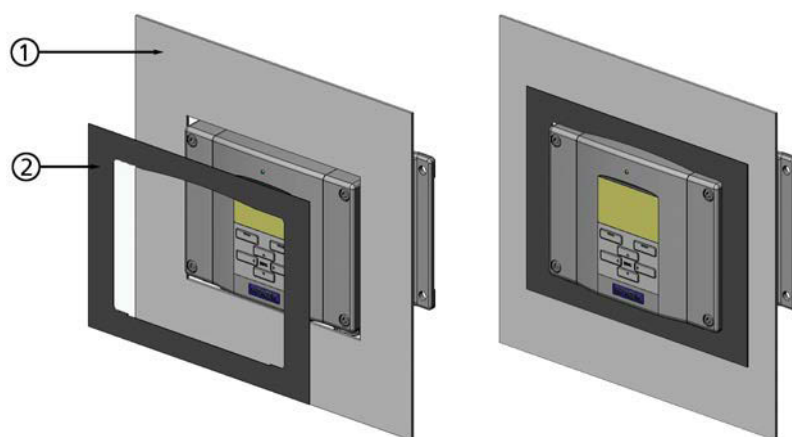

Figure 13 Panel Mounting Frame
4. Remove the paper protecting the adhesive tape on the frame, and attach the frame around the transmitter. Refer to Figure 13 on page 23.
Numbers refer to Figure 13 above: